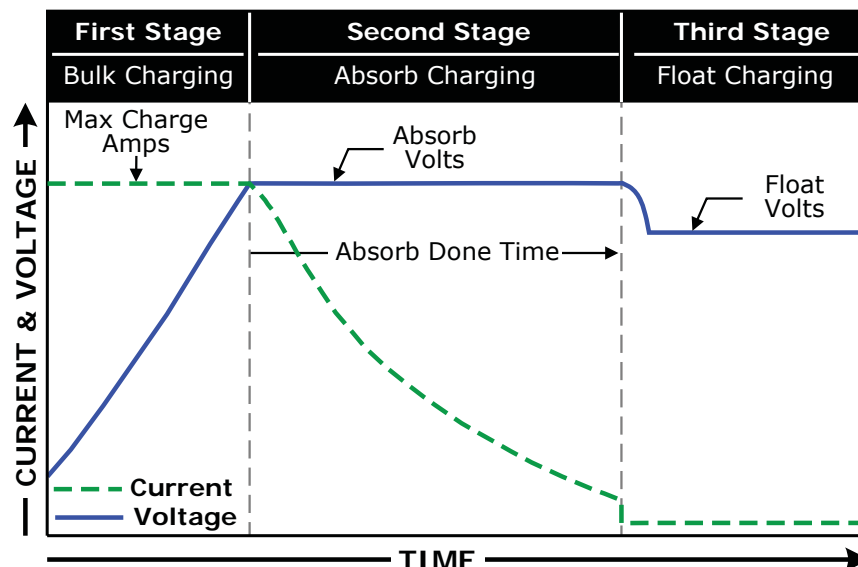

Figure 4-9, Automatic 3-Stage Charging Graph
As a charge controller, the PT-100's primary function is to monitor and charge the batteries appropriately when PV power is available, and to prevent the batteries from being overcharged. When PV power is connected to the PV input, the charge controller begins monitoring for acceptable PV power and begins charging the batteries once it has accepted the PV input. The PT controller uses up to four different charging stages to help monitor and keep the batteries healthy. The four stages include an automatic 3-stage charging process: Bulk, Absorb, and Float (see Figure 4-9); and a manual Equalization (EQ) charge stage. The automatic 3-stage charge process provides complete recharging and monitoring of the batteries without damage due to overcharging. The EQ stage (requires a two pushbutton press to enable) is used to stir up stratified electrolyte and to reverse any battery plate sulfation that may have occurred.